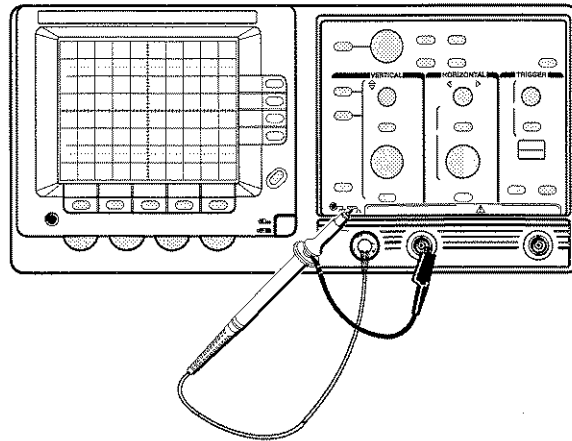

Figure 6-2: Test Hookup for Functional Tests
4. Install the probe on **CH 1**. Connect the probe tip to **PROBE COMP** on the front-panel; connect the probe ground to the ground barrel of an unused input BNC (see Figure 6-2).